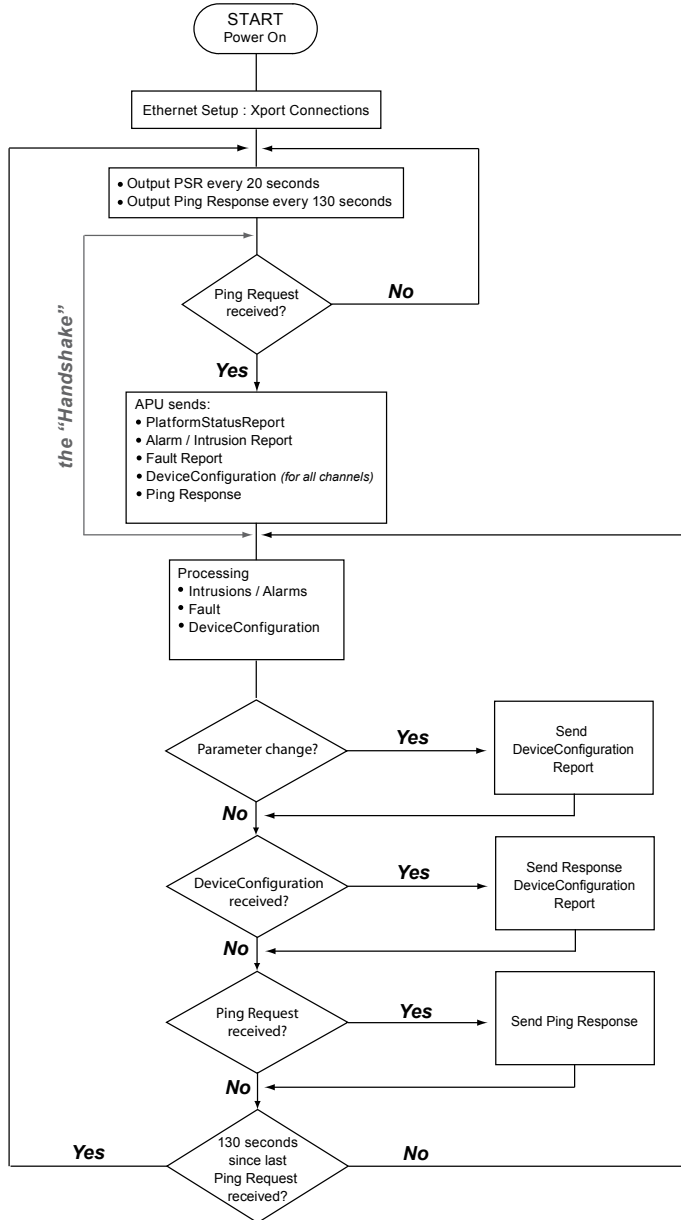
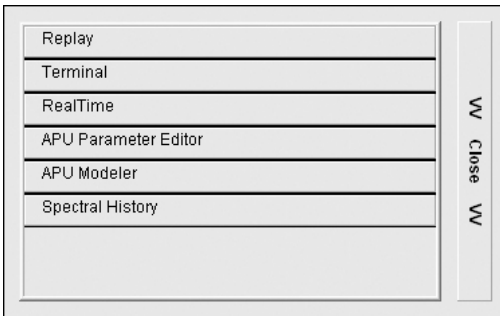

Figure 7-16: Remote system – APU communication structure
Figure 7-17: SpectraView® Modes menu
1. Launch SpectraView® and select Terminal Mode from the Modes menu, figure 7-16. This brings up the screen shown in Figure 7-17